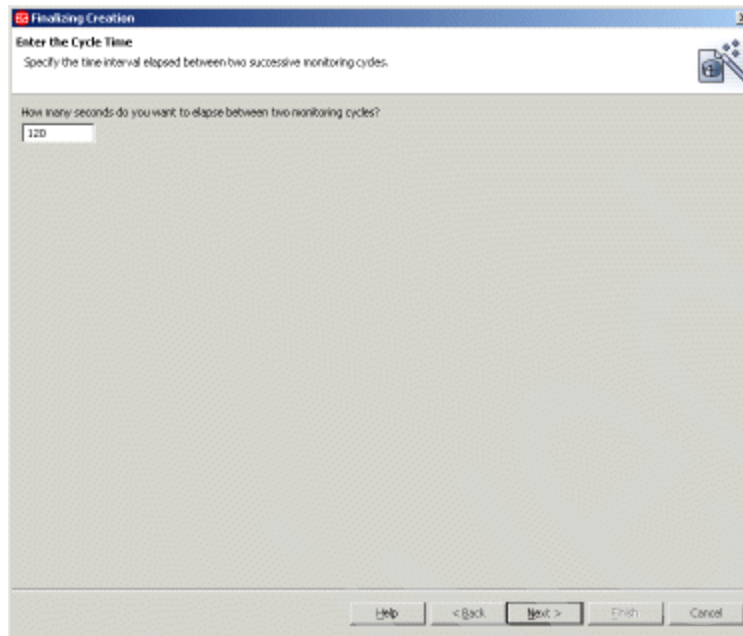

Figure 9-48 Finalizing Creation: Enter the Cycle Time window
19. Select **Next**. The Finalizing Creation: Enter the Cycle Time window displays. Enter 120 in the text field, as shown in Figure 9-48 on page 469.